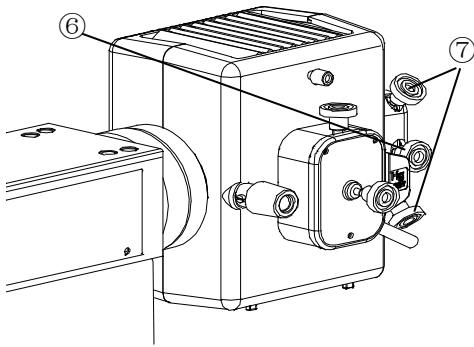

Fig.6
1. Switch the light shutter ① to “●” position to shut off the light path.
5. Pull out the field iris diaphragm lever ② to close the iris diaphragm and push in the aperture iris diaphragm lever ③ to open the iris diaphragm to the large limit.
6. Switch the light shutter ① to “O” position to open the light path.
7. Turn the collector adjusting knob ④ to project the arc image on the centering plate and sharpen it.(A)
8. Revolve the burner adjusting knob ⑤ to move the arc image and the mirror reflected arc image in the symmetrical position。(B)
9. Adjust the mirror focusing knob ⑥(Fig.6) to sharpen the mirror reflected arc image。(C)
10. Turn the burner adjusting knob ⑤ to overlap the arc image with the mirror reflected arc image.(D)
Centering the mirror reflected image (Fig.6)
Knob control: (Fig.6):